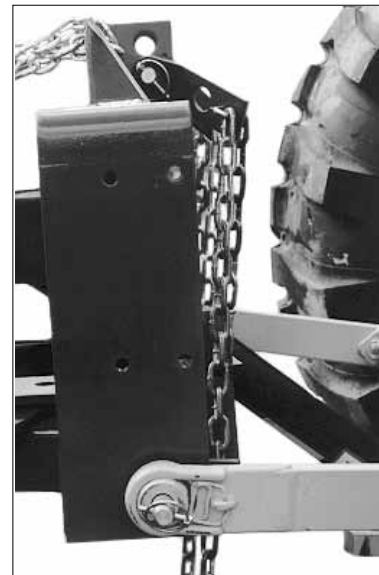

figure 2
6. Place the mounting assembly's pins in the hitch arms. Secure with ring pins (figure 2).